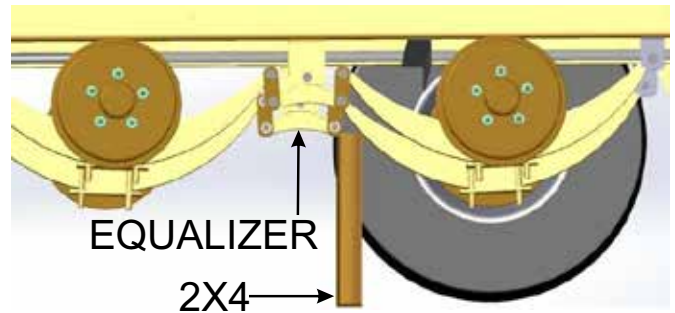

Figure 8. Stabilizing Tandem Axle
11. To stabilize the tandem axle (Figure 8) equalizers during the axle replacement process, place a 2" X 4" (or like item) as shown on the opposite axle that is being replaced.